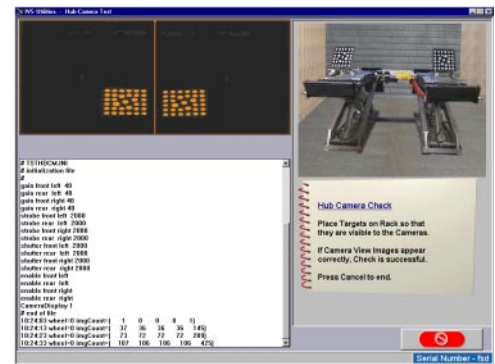

Figure 3-103
6. An image of the targets should appear on the screen. (Figure 3-103) The text box does a refresh every 10 seconds and should update the image count for each wheel. Run the test for approximately 5 minutes and click on the cancel key to exit this test.